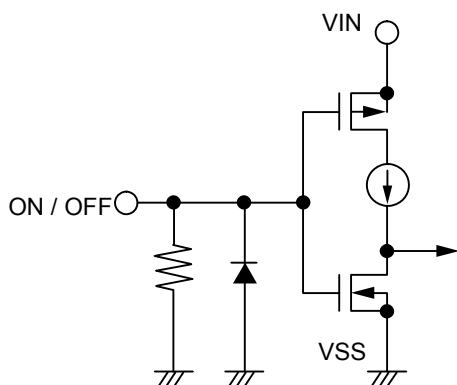

Figure 30 S-19243xxxH Series
Note that the current consumption increases when a voltage of 0.6 V to $V_{IN} - 0.3$ V is applied to the ON / OFF pin. The ON / OFF pin is configured as shown in **Figure 30** and **Figure 31**.
*2. Note that the IC's current consumption increases as much as current flows into the pull-down resistor when the ON / OFF pin is connected to the VIN pin and the S-19243xxxH Series A / C / E / G type is operating (refer to **Figure 30**).